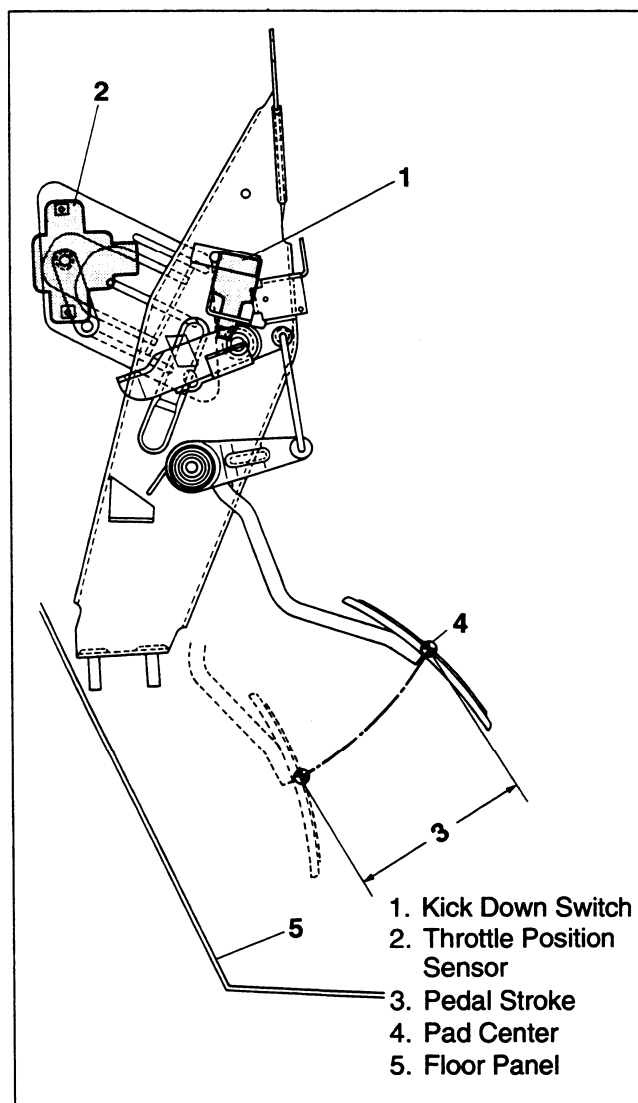

Figure 8. Kick Down Switch, Throttle Position Sensor and Related Part
**Adjust (Figures 8 and 9)**
1. Depress the accel pedal, at the stroke (3) of 35 ± 1 mm (1.38 ± 0.04 in) on the pad center (4).